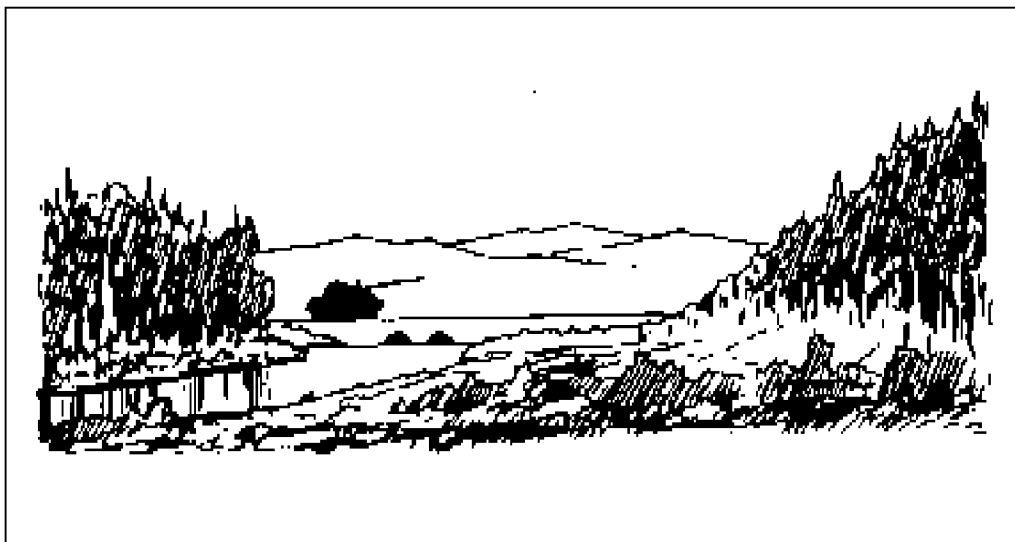

Figure 8-16. Target able or unable to reach cover in time.
a. The gunner looks through his sight to determine whether the missile can hit a moving target before it can find a covered position. He aims the sight at a point directly in front of the moving target. With a target moving at a speed of 35 KPH or less, if the gunner sees no obstructions or covered areas on the apparent path of the target, he can destroy the target (Figure 8-16, page 8-16).